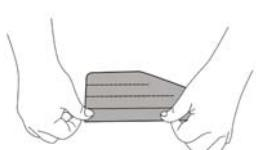

Figure 3a
- Fold the Lung-Bag portion of the Face-Shield/Lung-Bag (Figures 3a-3d):